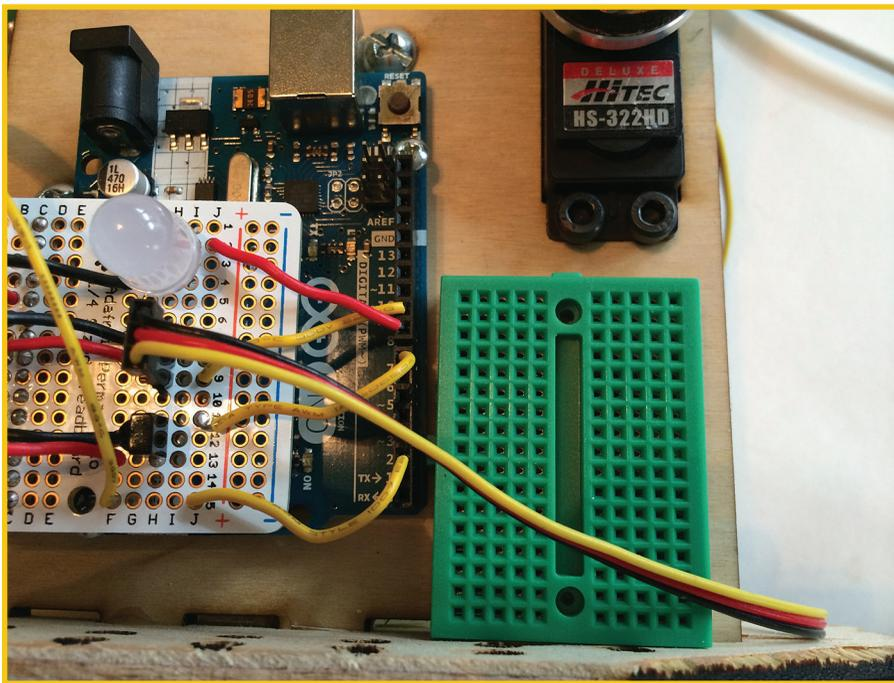

FIGURE 13.9 Attach the breadboard to the gun-holding rig.
- STEP 1** Attach the mini breadboard to the gun-holding rig, as shown in Figure 13.9. Most of these boards have adhesive backing, or you could use double-sided tape.